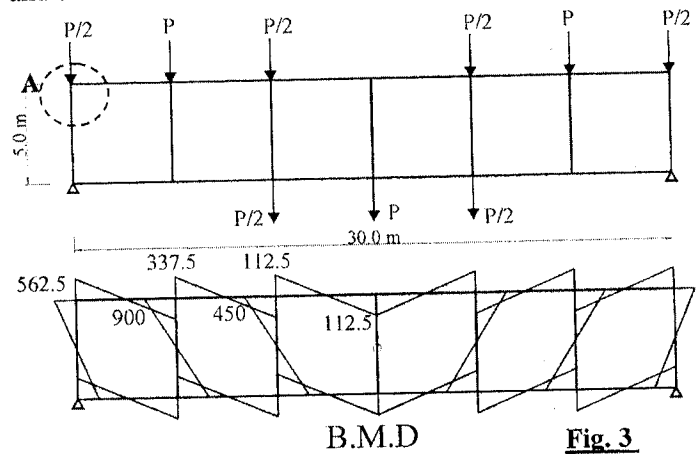

**Fig. 2** Section elevations I-I for three cases of roofs
**B.** Fig. 2 shows plan and sectional elevations of an industrial hall (L×42m). The columns are allowed only in the outer perimeter of the hall. There are **three cases** of roofs may be used to covering this hall as shown in the sectional elevation I-I. It is required to carry out the following: